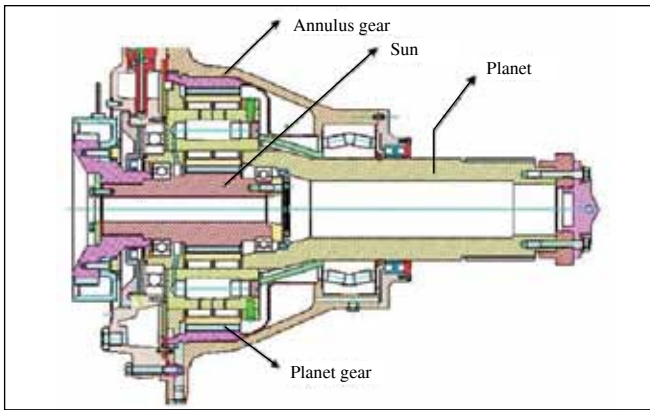

Figure 2—Cross section of final drive.
The final drive is located outside the main transmission and is fixed to the vehicle hull. It serves as an additional reduction unit in multiplying the driving and braking torque for the tracks. The final drive (Fig. 2) consists of three gear elements, namely: sun gear (23 teeth), planet gear (22 teeth) and annulus gear (69 teeth) of module 4 mm with a contact ratio of 1.343. The transmission left-hand (LH) and right-hand (RH) outputs are connected via toothed, sliding couplings to the sun gears of the LH and RH final drives, respectively. The annulus gears of the two final drives are fixed, and they provide the reaction torque. The output power from the LH and RH final drives is taken from the planet carriers, which are connected to the LH and RH sprockets driving the tracks.